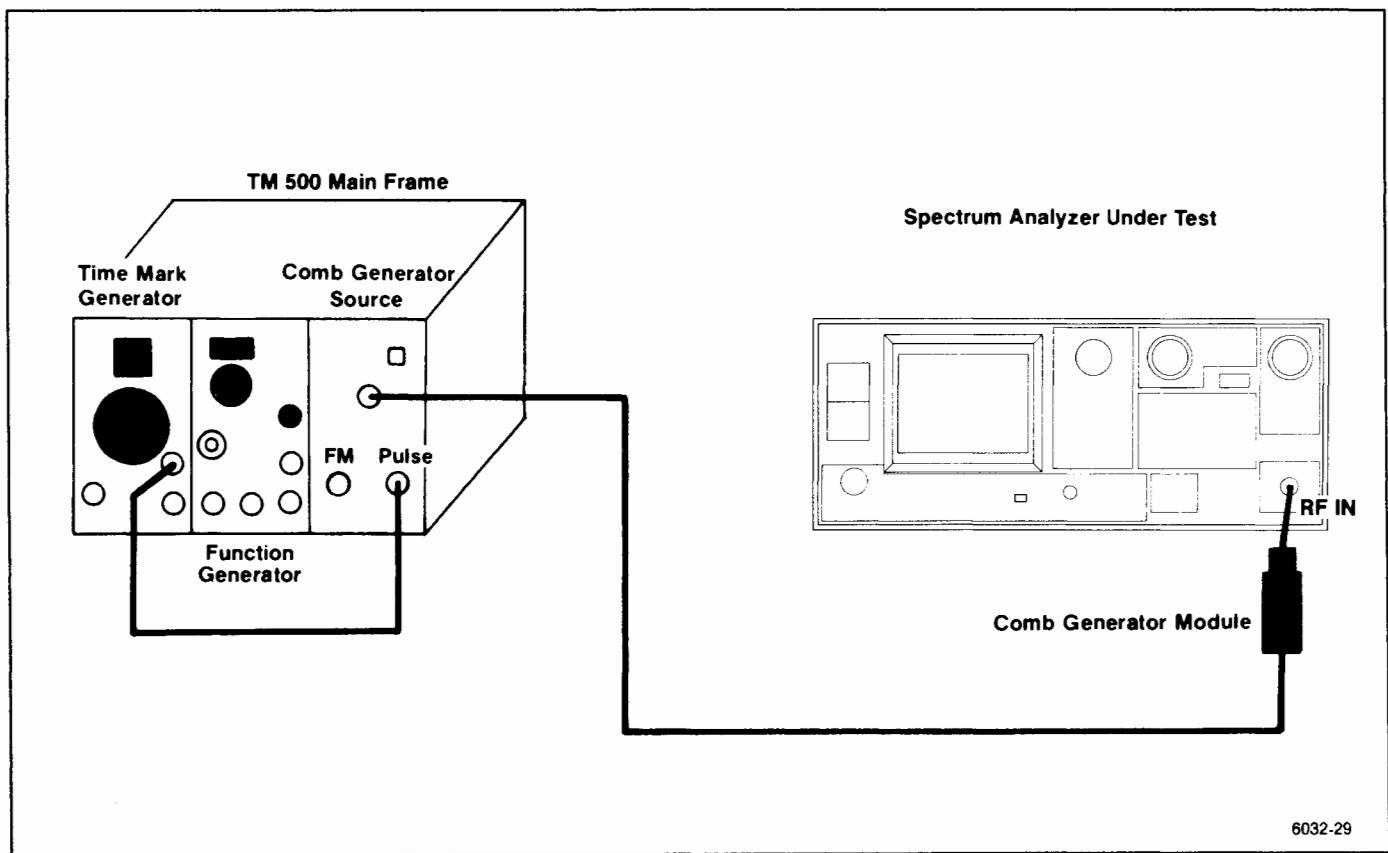

Figure 6-18. 2182 MHz 2nd LO frequency accuracy test setup.
- Connect the test equipment as shown in Figure 6-18.